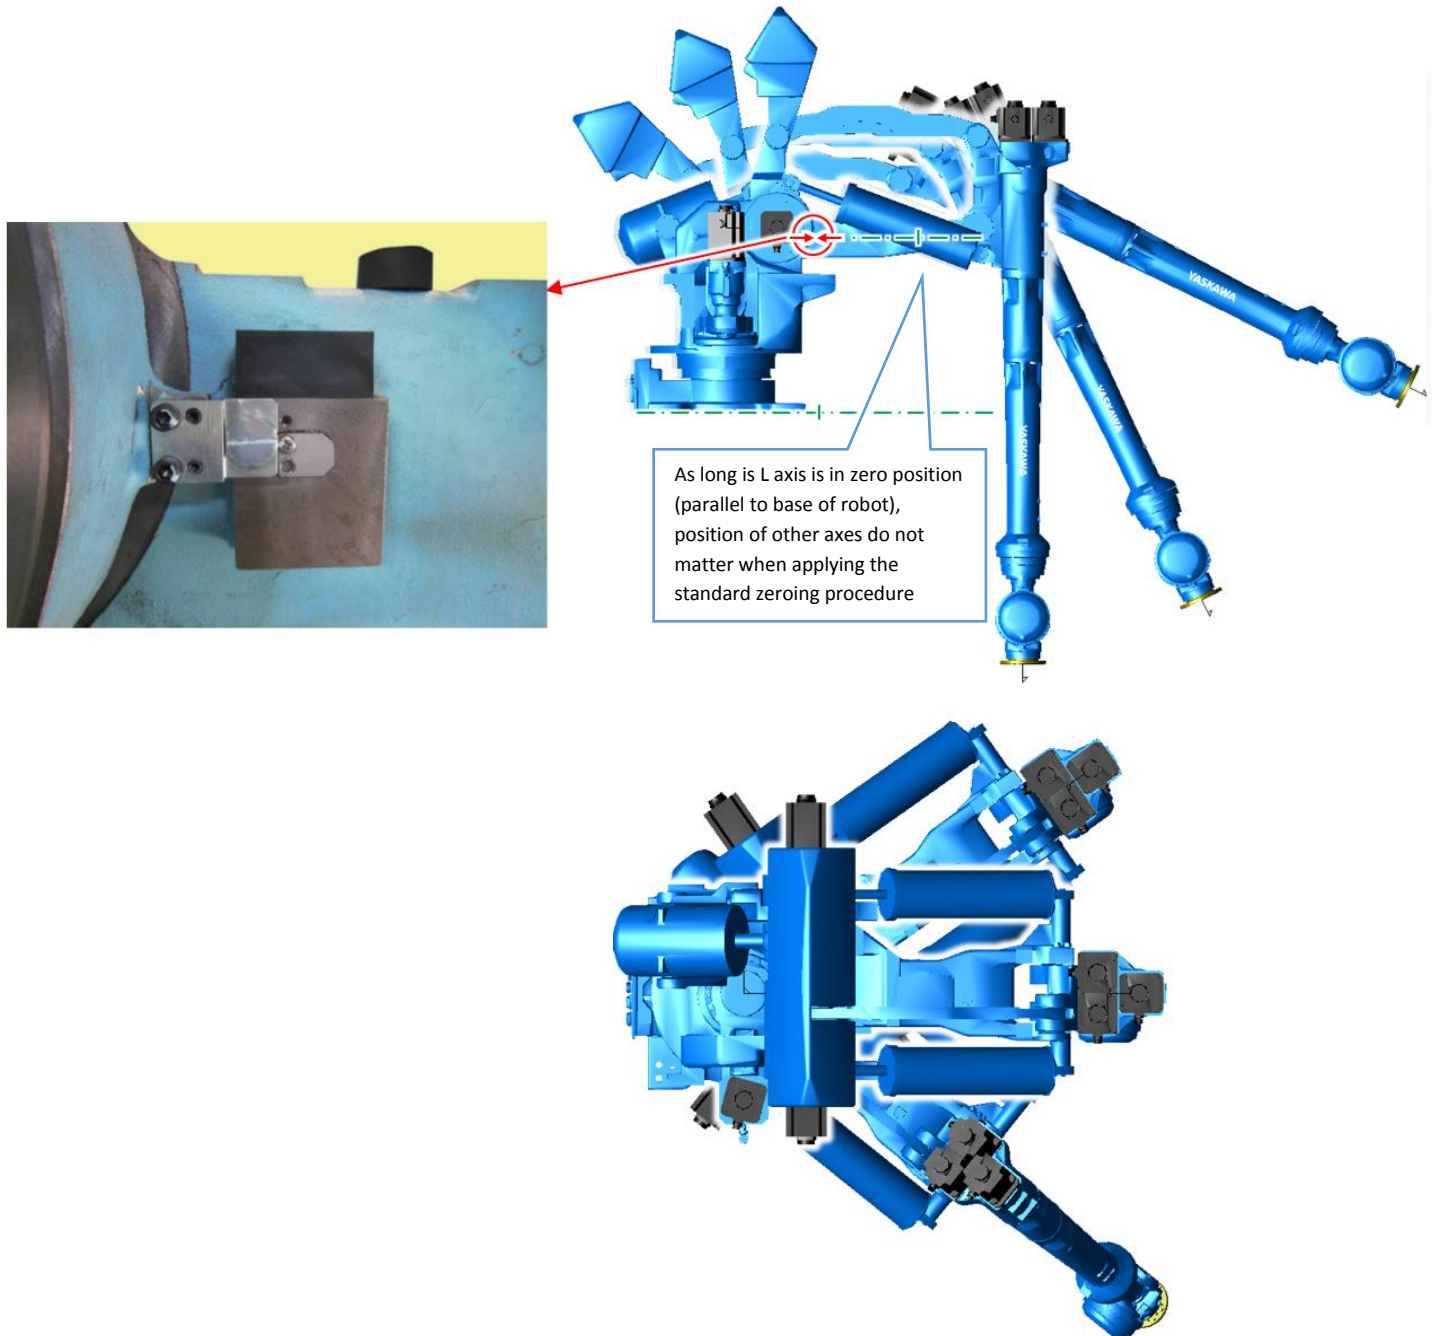

Figure 3: L-axis Zeroing Bracket Location and Alternate Zeroing Postures
- Simultaneous zero positioning of other axes (**S, U, R, B, T**) is **not required** (see Figure 3)